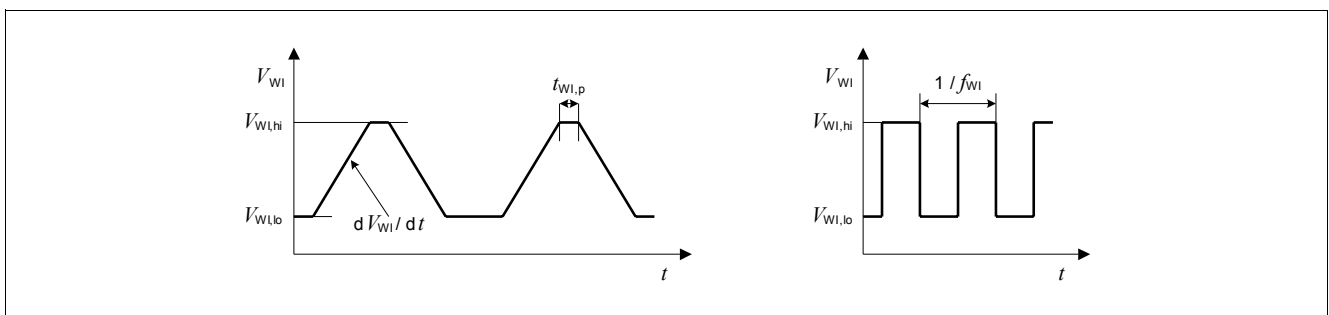

Figure 11 Test Pulses Watchdog Input WI
The watchdog is triggered by an positive edge at the watchdog input “WI”. The signal is filtered by a bandpass filter and therefore its amplitude and slope has to comply with the specification Item 8.2.10 to Item 8.2.14. For details on the test pulse applied, see Figure 11.
- 2) For details on the test pulse applied, see **Figure 11**.